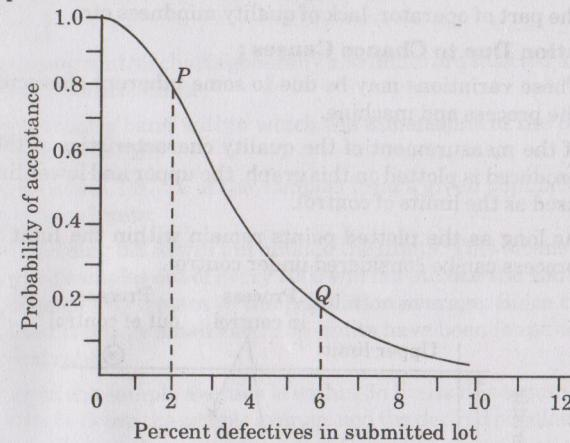

Fig. 3.8.1. Operating characteristic curve.
6. The OC curve for this plan is shown in Fig. 3.8.1.